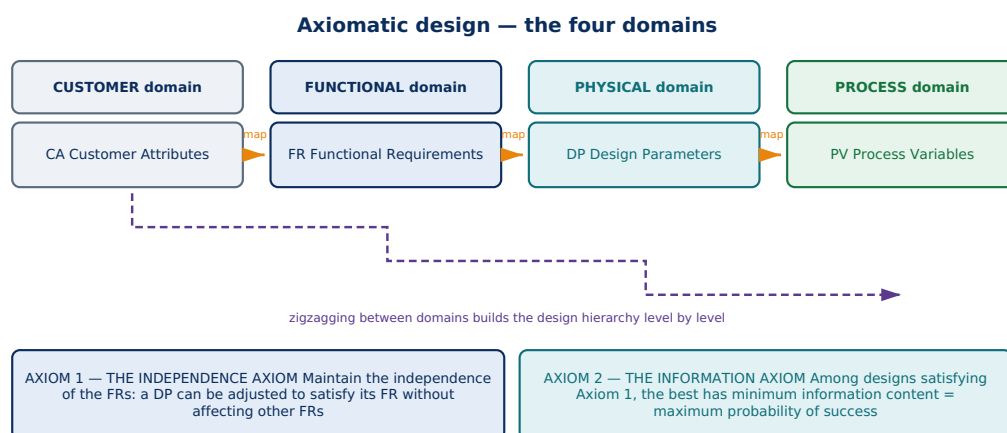

Fig 6.4 — Axiomatic design: the four domains and the two axioms
- Attribute to **Nam P. Suh**. Draw the four-domain diagram (Fig 6.4) with the mapping arrows $CA \rightarrow FR \rightarrow DP \rightarrow PV$ and mention **zigzagging** to build the hierarchy.